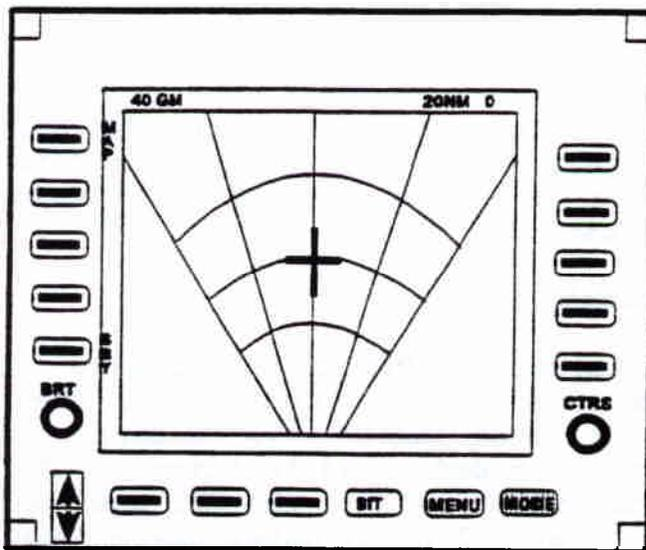

Figure 2
(1) Mode: When depressed, the MFD will display the mode functions, as shown in Figure 2. They are Ground Mapping (MAP) and Standby (SBY). To select a mode, depress the soft key next to the mode desired. If no change in mode is desired, press the MODE key a second time and the screen will revert to the mode previously in use. The mode in use will be displayed in the upper left corner of the MFD.